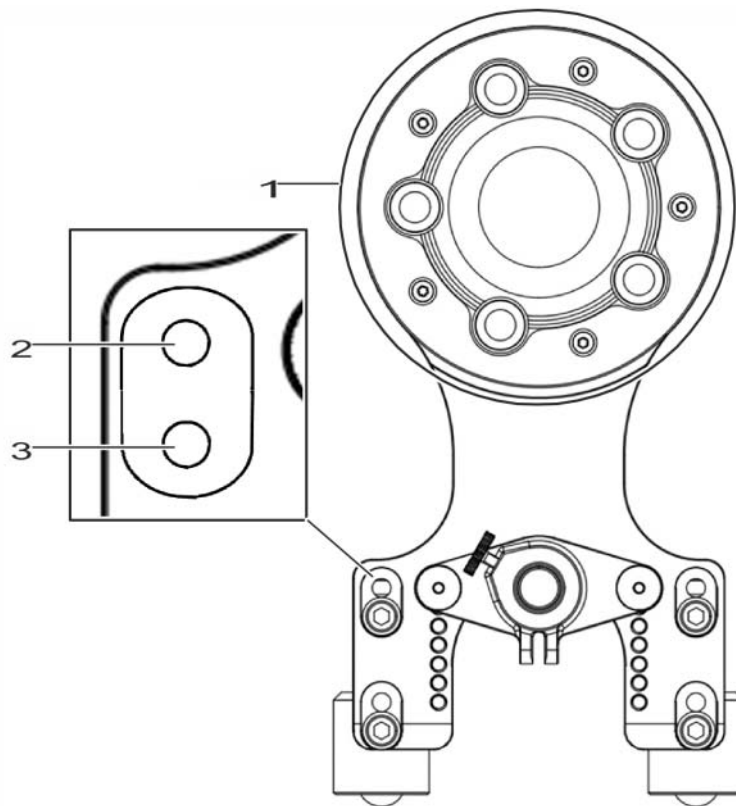

Figure 34
- ⇒ **Figure 34 -1-** – Center hub
- ⇒ **Figure 34 -2-** – Upper position for L-angle foot
- ⇒ **Figure 34 -3-** – Lower position for L-angle foot